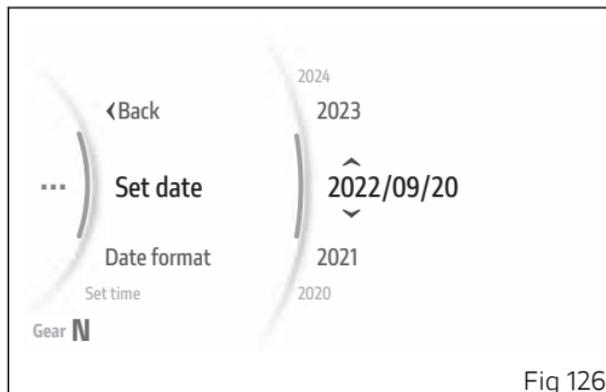

Fig 126
- From the Interactive Menu, use buttons (1) and (2) to select the item "Setting menu" and press ENTER (3).
- Select the "Date and time" item and press ENTER (3).
- Select the "Set date" item and press ENTER (3).
The first parameter of the date (the year in the example) becomes selectable and is displayed with two arrows placed above and below it; the available values for the displayed parameter are also displayed above and below it (Fig 126). Use buttons (1) and (2) to scroll and select the desired value. Press ENTER (3) to confirm and move on to the following parameter.